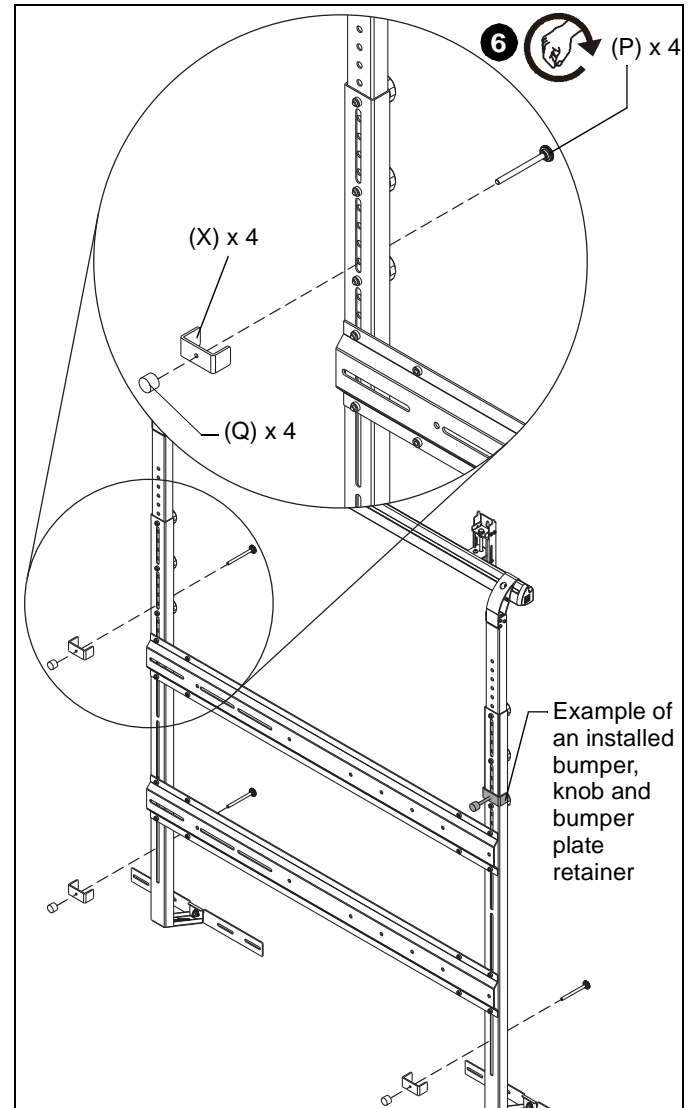

Figure 10
6. Attach two bumper plate retainers (X), 3" knobs (P), and bumpers (Q) through each leg assembly, one just below top of flat panel and one just above bottom of flat panel. (See Figure 10)
7. Adjust 3" knobs (P) so that flat panel is supported evenly by each of the four bumpers. (See Figure 10)